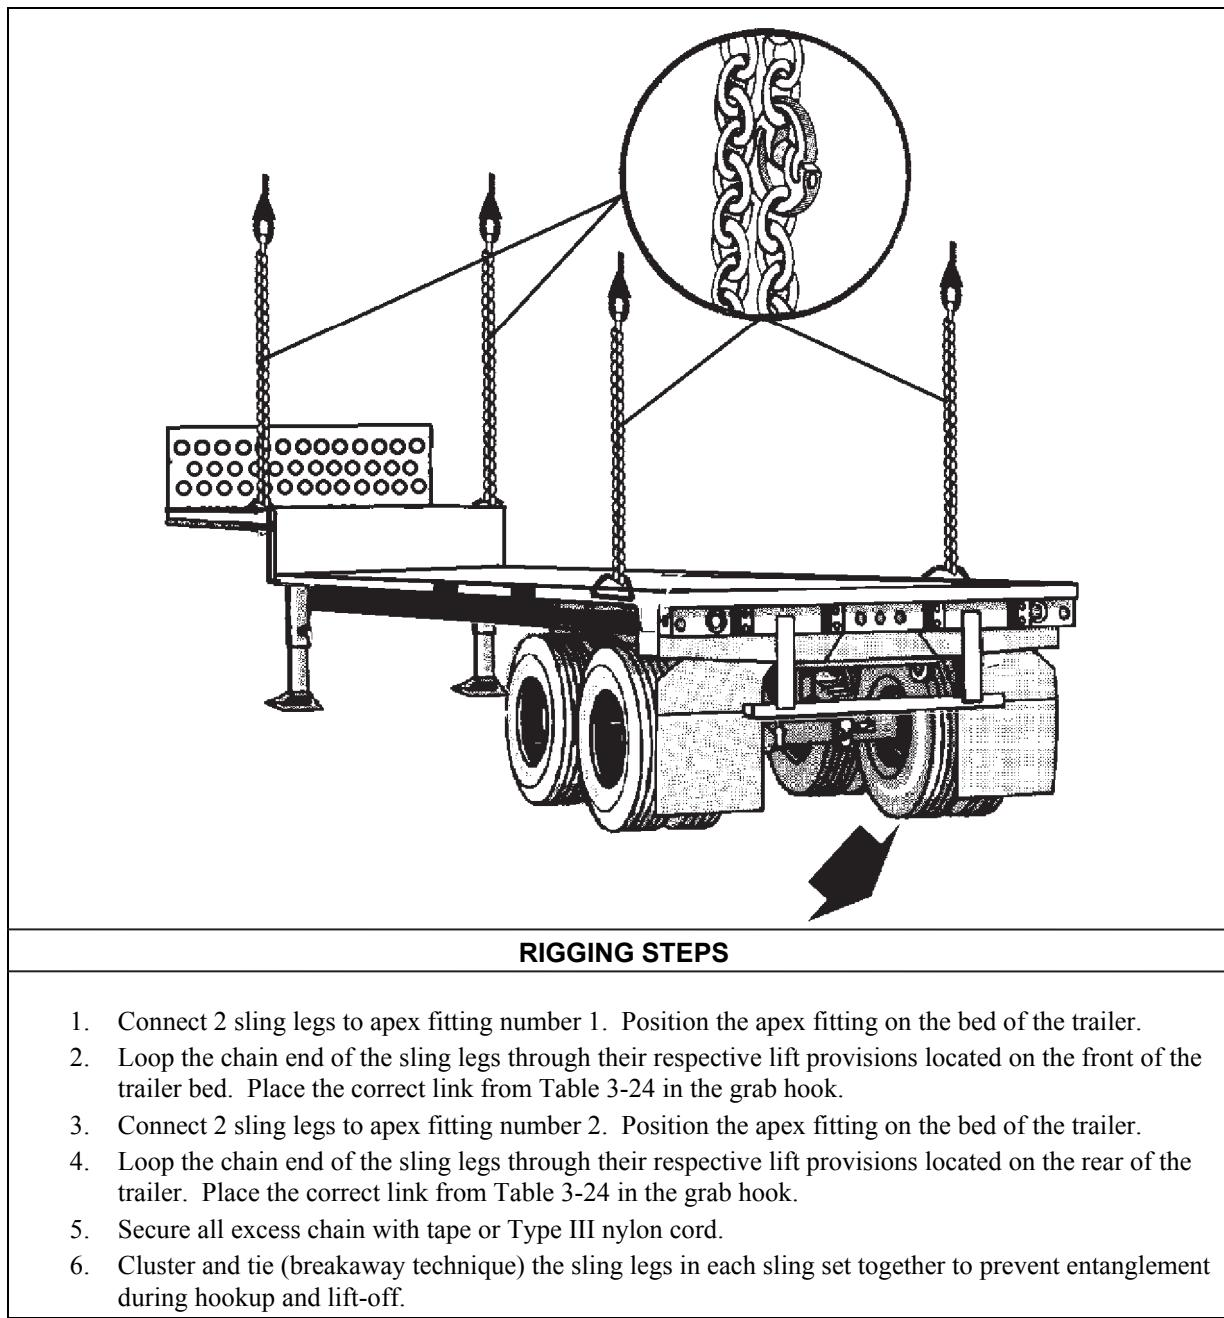

Figure 3-24. M871A3 Semi-Trailer
- **Rigging.** Rig the load according to the steps in Figure 3-24.